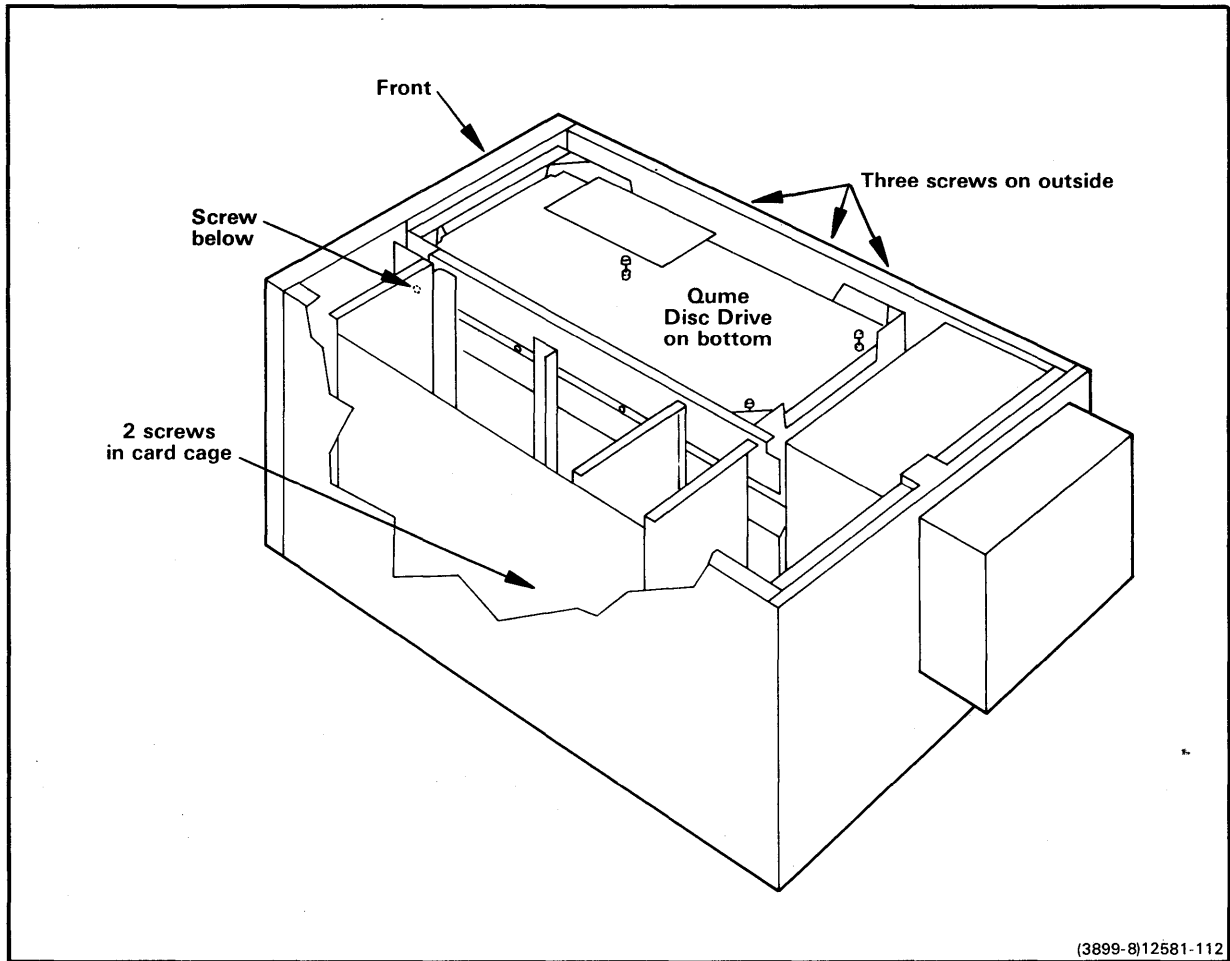

Fig. 15-8. Qume disc drive screw locations.
- Remove the three inside screws shown in Fig. 15-8 (first front, then back, then middle)